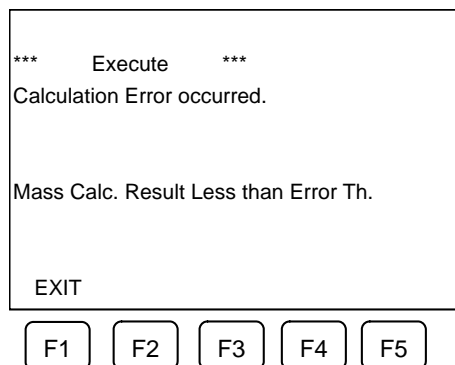

Fig.6.3.3 When the calculation error occurs
- As is shown in Fig.6.3.3, if a calculation error occurs, the corresponding error message is displayed as indicated below. Take action according to the remedy indicated in the right-hand column.